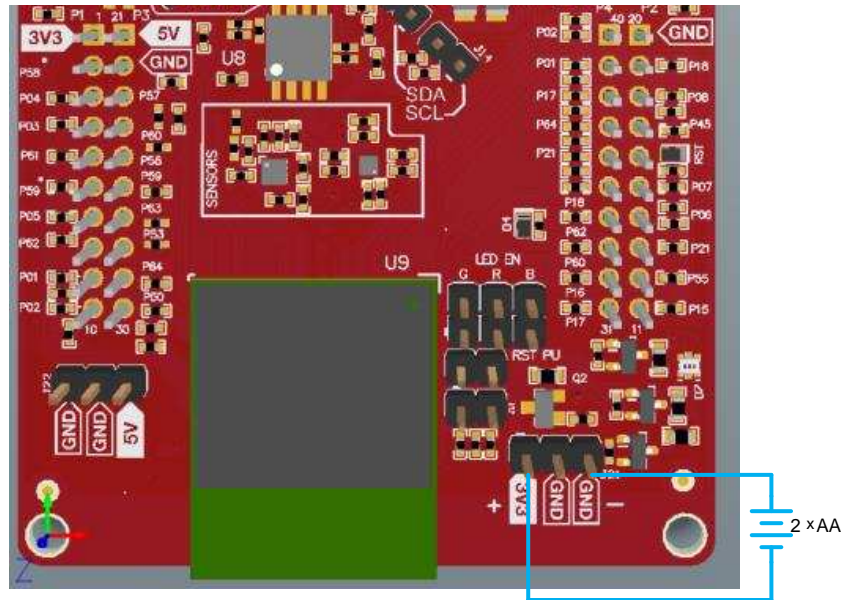

Figure 1-37. Battery Powering the CC3220MODASF and Serial Flash
In some cases, there may be a requirement to power only the CC3220MODASF module and the Serial Flash from the battery. The use may not require LEDs or OPAMP for the ADC and the sensors. In such a condition, the other sections can be powered off by removing the appropriate jumpers. Figure 1-37 shows how the board would look with the correct jumpers on.
1. Remove the jumpers, as shown in Figure 1-37.